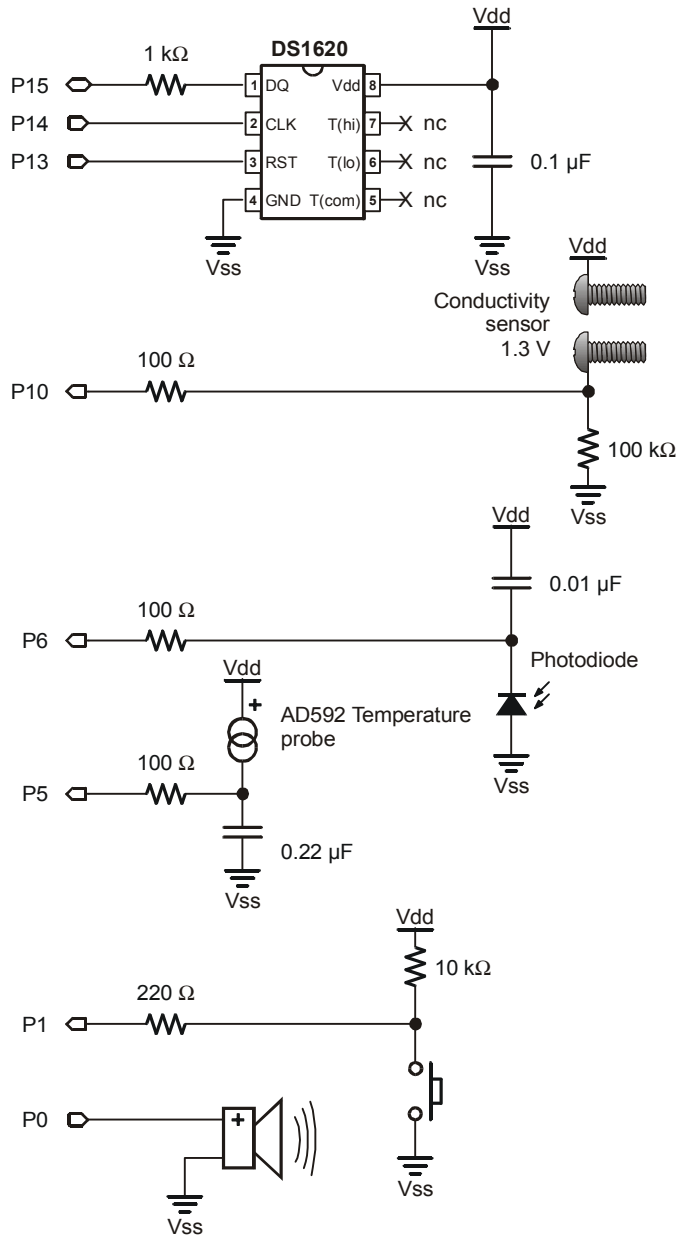
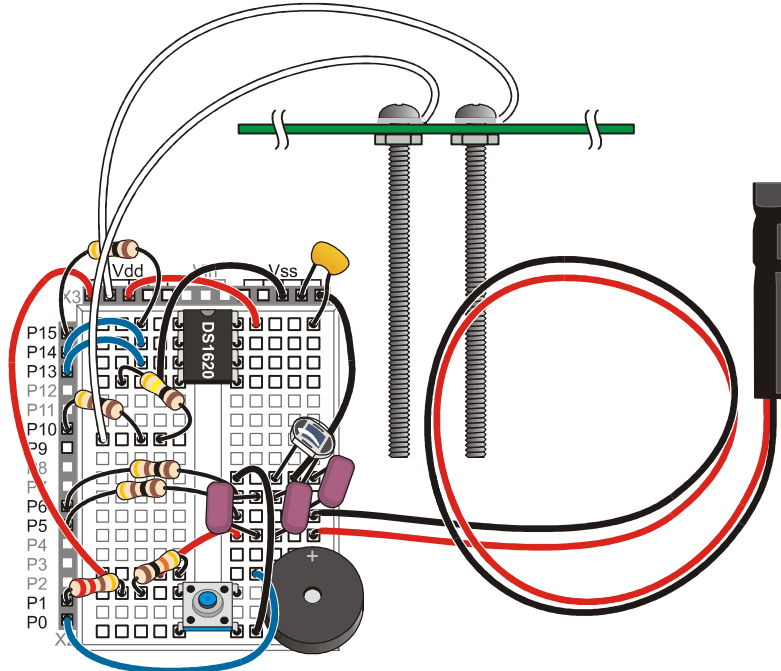

Figure 5-1
Figure 5-2: Conductivity Sensor Wiring Diagram
- √ Build the circuit shown in the schematic (Figure 5-1) and wiring diagram (Figure 5-2).